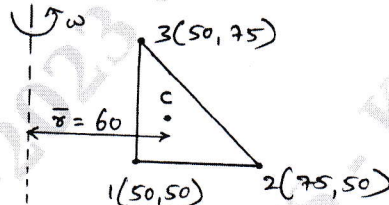

Fig.Q9(b)
- b. For the element of an axisymmetric body rotating with constant angular velocity $\omega = 1000$ rev/min as shown in Fig.Q9(b). Determine the body force vector. Include the weight of the material, where specific density is 7850 kg/m^3 .